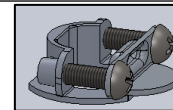

FIG.7 STRAIN RELIEF
- ii. STRAIN RELIEF (as shown in FIG. 7)